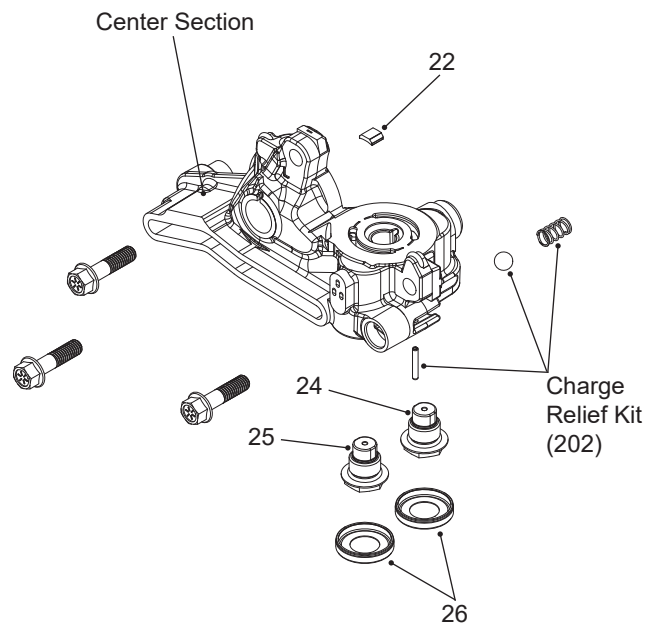

Figure 31, Center Section Kit (201)
Refer to Figure 31
1. Remove the bypass plate (22) from the center section.
2. Remove the shock valve seals (26) and discard. Refer to figure 31.